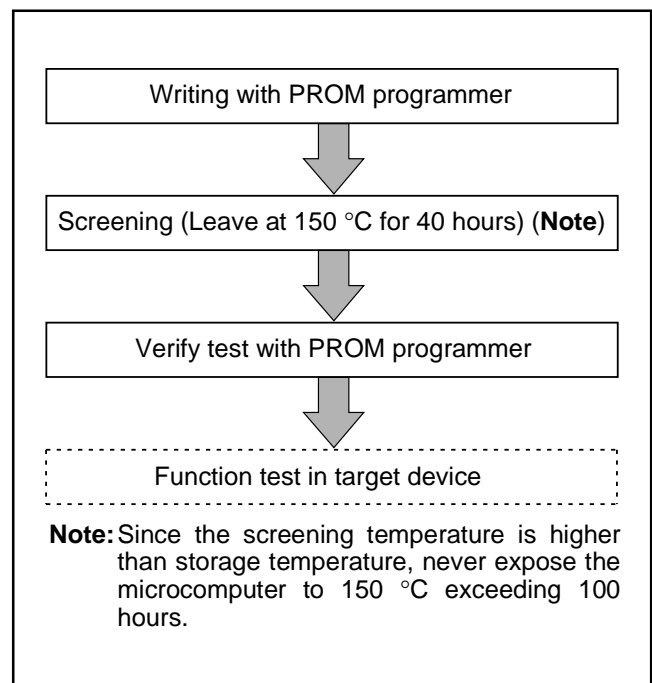

Fig. 53 Flow of writing and test of the product shipped in blank
(2) Notes on handling
- ① A high-voltage is used for writing. Take care that overvoltage is not applied. Take care especially at turning on the power.
- ② For the One Time PROM version shipped in blank, Mitsubishi Electric corp. does not perform PROM writing test and screening in the assembly process and following processes. In order to improve reliability after writing, performing writing and test according to the flow shown in Figure 53 before using is recommended (Products shipped in blank: PROM contents is not written in factory when shipped).